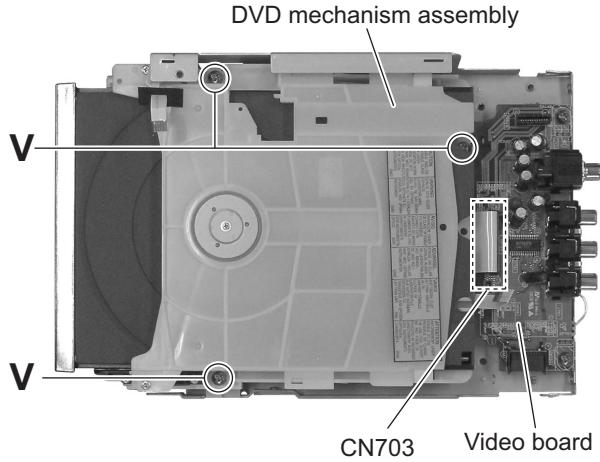

Fig.23
- (3) Disconnect the card wire from the connector **CN703** on the video board. (See Fig.23.)
- (4) Remove the three screws **V** and take out the DVD mechanism assembly from the bottom chassis. (See Fig.23.)